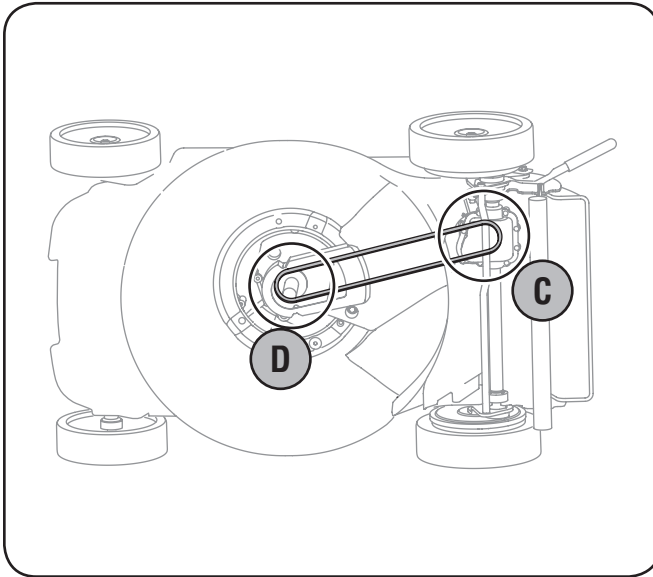

Figure 7-3
- c. Working from the rear of the mower, carefully remove belt from transmission pulley. See Figure 7-3.
- d. Once belt is off transmission pulley, push down on deck baffle to access engine pulley and slide belt off this pulley and out from under the deck. See Figure 7-3.